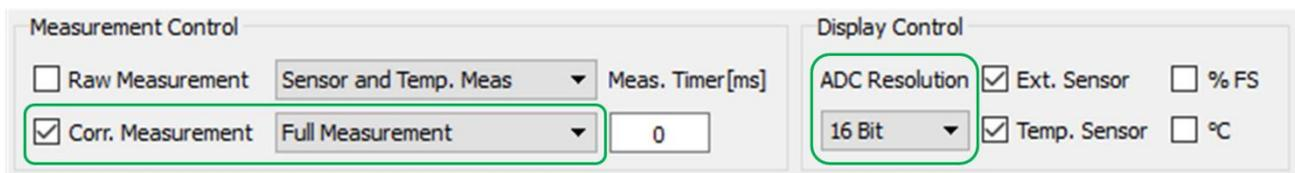

Figure 10. Measurement and Display Control
Figure 10 displayed ADC resolution that is configured to 16-bit determines the full-scale presentation of the digital output (see Figure 10)
- Numerical Display shows the value in the range of 0 to 2^R , where R is the resolution configured in the Display Control of the GUI (Figure 10).